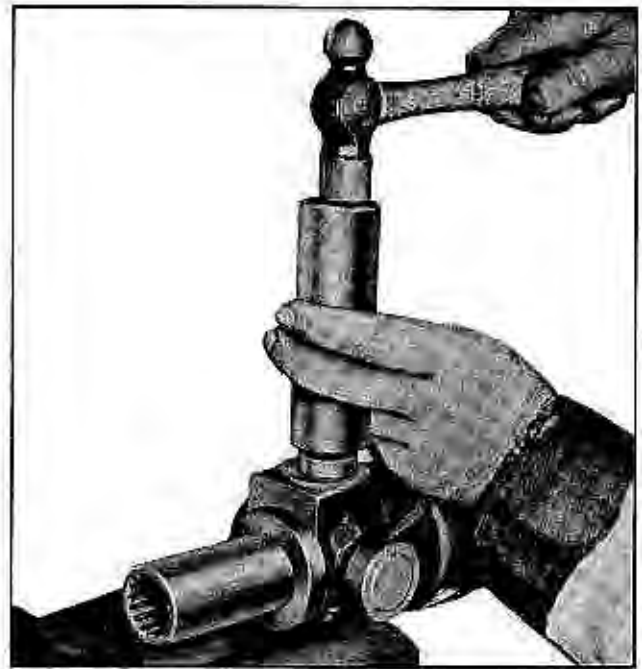

Fig. 4A-4 Removing Bearing From Splined Yoke Member
- b. Using a piece of pipe or similar tool with diameter sufficiently large to encircle bearing (slightly larger than $1\frac{1}{2}$ inch), apply force on yoke around bearing (Fig. 4A-4). This will drive yoke down caus-